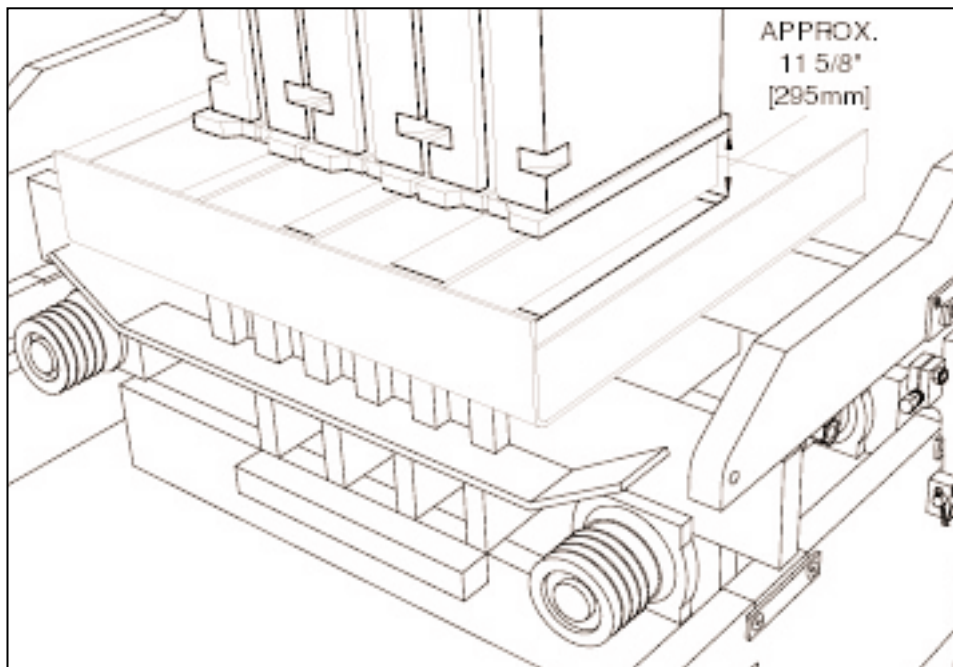

Figure 5.27 SHOES 4" [102MM] ABOVE MOLD.
5.6.6 Measure from bottom of shoe to top of mold end liners (see figure 5.27). Add dimension “C” to this measurement (dimension “C” is the amount of compression. For detailed explanations, see section 5.8)